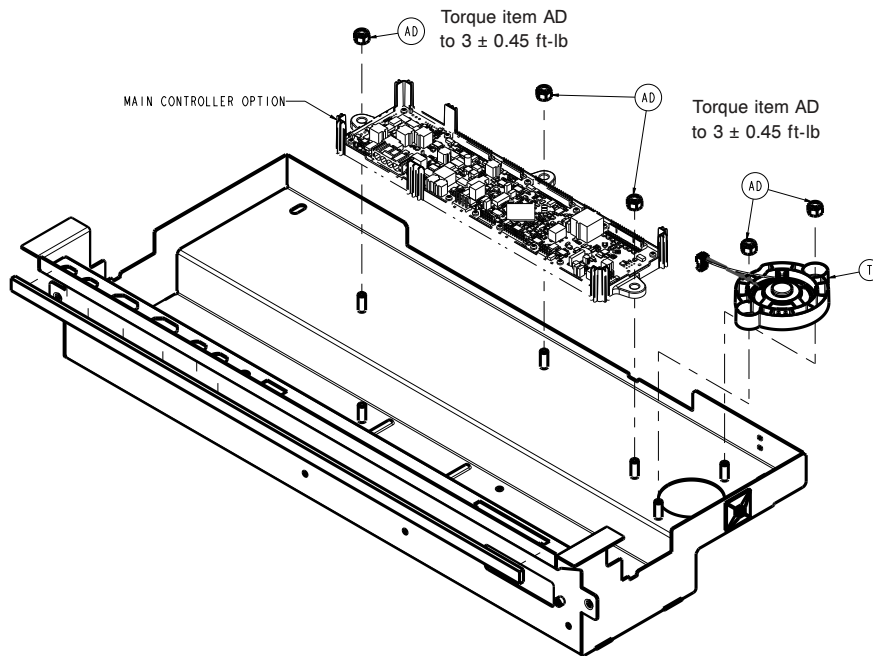

Figure 29 – Replacing the main control board
10. Using a ratchet and a 7/16" socket, remove the three nuts (AD) that secure the main control board to the electronics box assembly (Figure 29). Save the nuts.